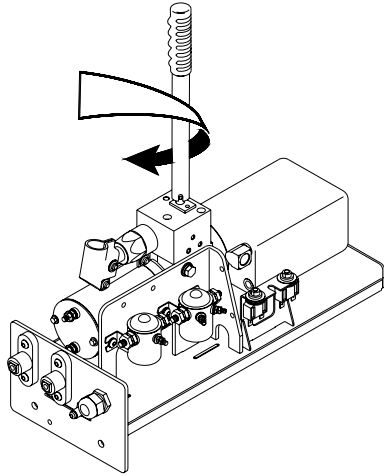

FIGURE 2-14: ROTATE VALVE CCW TO OPEN
- 12) Refer to **Figure 2-14** on following page. Engage pump release valve with handle. Slowly rotate valve counter-clockwise (1/4-turn max) until platform begins to lower; do not open further. Allow platform to settle on the ground, and then rotate valve clockwise to close.
- 18) Refer to **Figure 2-14**. Engage pump release valve with handle. Slowly rotate valve counter-clockwise (1/4-turn max) until platform begins to lower; do not open further. Allow platform to lower until stopped at stow level by the stow tabs, and then rotate valve clockwise to close.